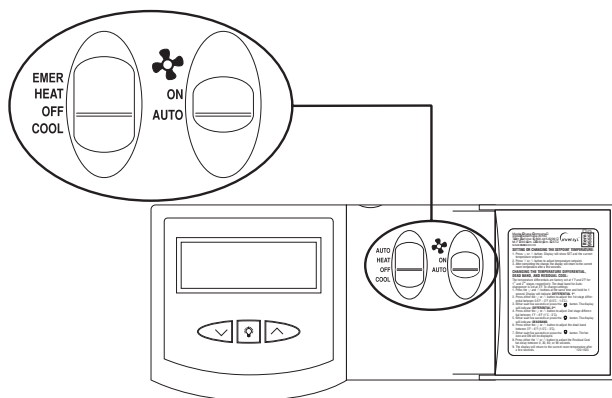

Figure 2
2. Place EMER-HEAT-OFF-COOL in OFF position (Figure 2).
3. Place ❄️ -ON-AUTO switch into AUTO position (Figure 2).